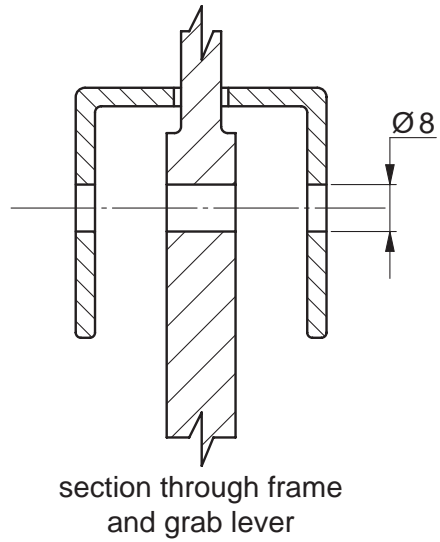

Fig. 9b
- (e) Draw on **Fig. 9b** a method which shows how the grab lever can be securely attached to the frame but allows the grab lever to pivot freely. [2]